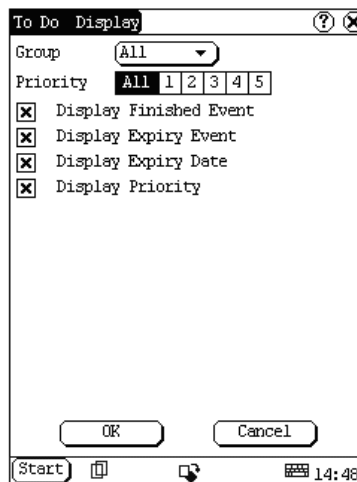

Fig 4-23
- 5) Click the box to the right of each function. When 'X' is displayed in the box, the function is selected. (See Fig 4-23)